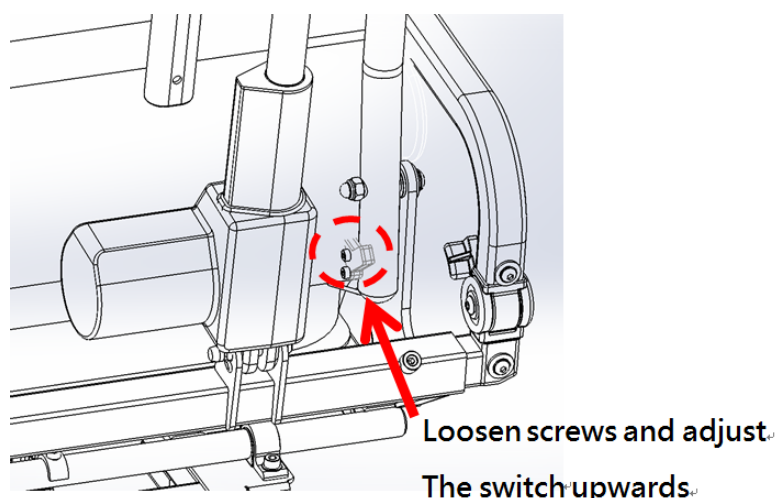

Figure 5-163
5.3.16.21 Drive the wheelchair when the seat is reclined to the lowermost position. If the wheelchair is inhibited from driving, please adjust the switch. (Figure 5-163)